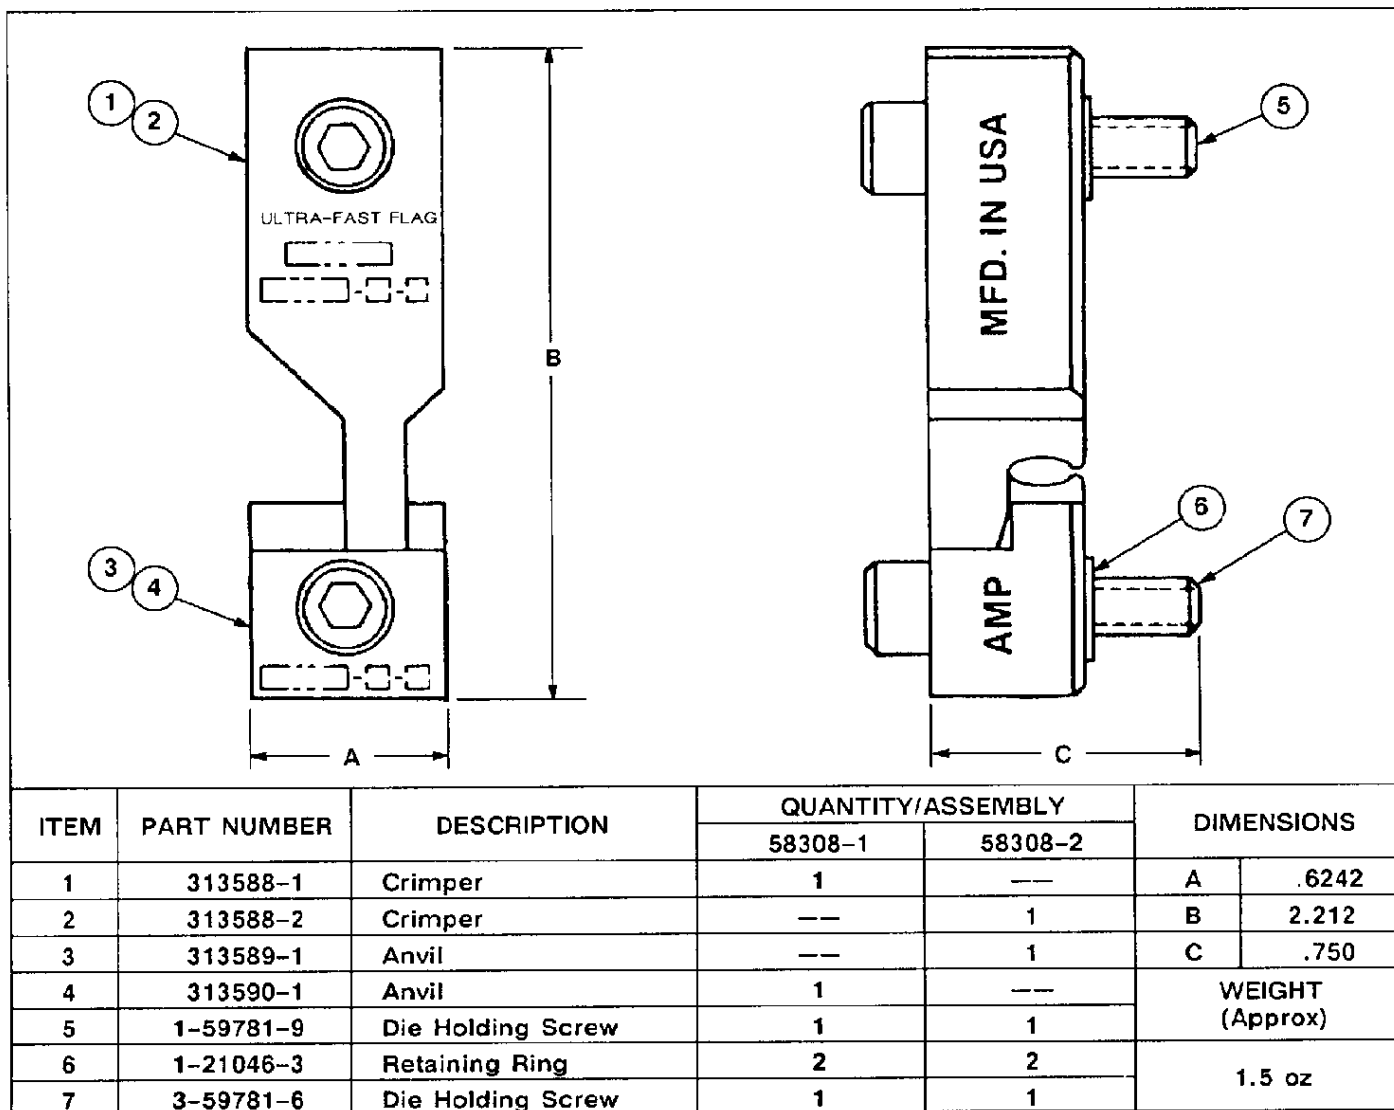

Fig. 3
2. Make sure all die-holding screws, retaining rings, and die components are in place. Refer to Figure 3 if replacements are necessary.
The parts listed in Figure 3 are customer-replaceable parts. A complete inventory should be stocked and controlled to prevent lost time when replacement of parts is necessary. The dies can also be returned to